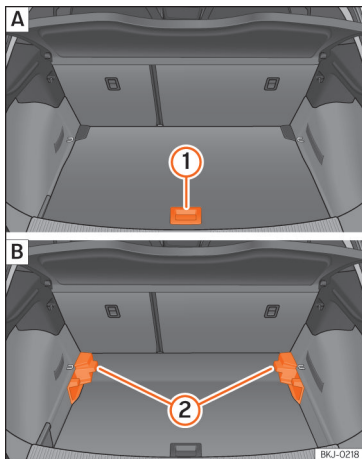

Fig. 113 Variable luggage compartment floor:
- To move from the low position to the high position, lift the floor using the handle »» Fig. 113 ①, and pull it back until the front of the floor has fully passed the supports ②.
- Move the floor forward over the supports as far as the rear seat backrest and then lower the floor with the handle ①.
- To move from the high position to the low position, lift the floor using the handle »» Fig. 113 ①, and pull it back until the front of the floor has fully passed the supports ②.
- Now let the front part fall to the floor and slide the floor forwards as far as the rear seat backrest; lower the floor at the same time with the handle ①.
- Lift the variable floor in the high position using handle »» Fig. 113 ①, pull it up and push it towards the backrest of the rear seats until it folds along the hinge line and the movable part of the floor is resting on itself.